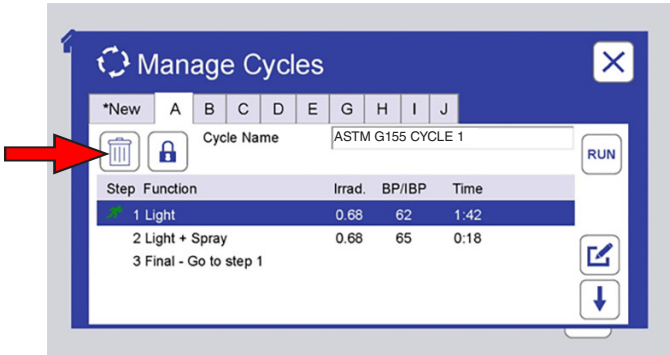
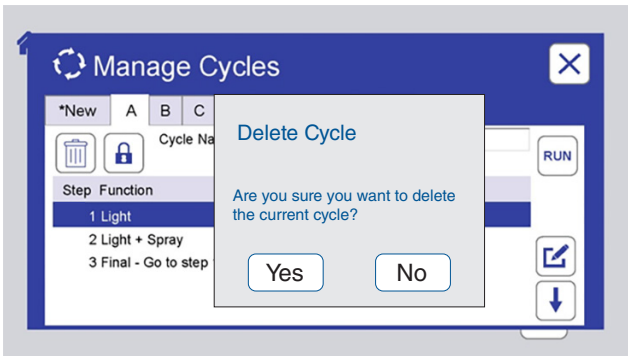

Figure 11.6.2a: Touch the delete icon to delete the selected cycle.
Figure 11.6.2c: To delete an inactive cycle, the operator is prompted for verification. Touch No to cancel delete. Touch Yes to create a blank cycle.
- Delete a cycle ( Figure 11.6.2a through Figure 11.6.2c).